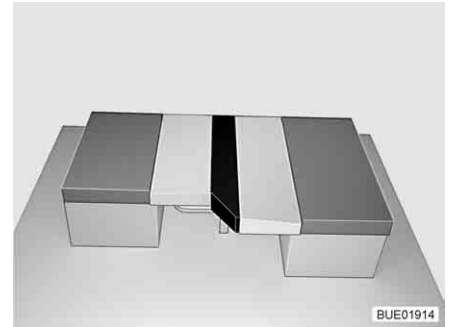

Fig. 94 After conversion
- Insert the additional cushion between the back cushion and the seat cushion as shown (see Fig. 94).